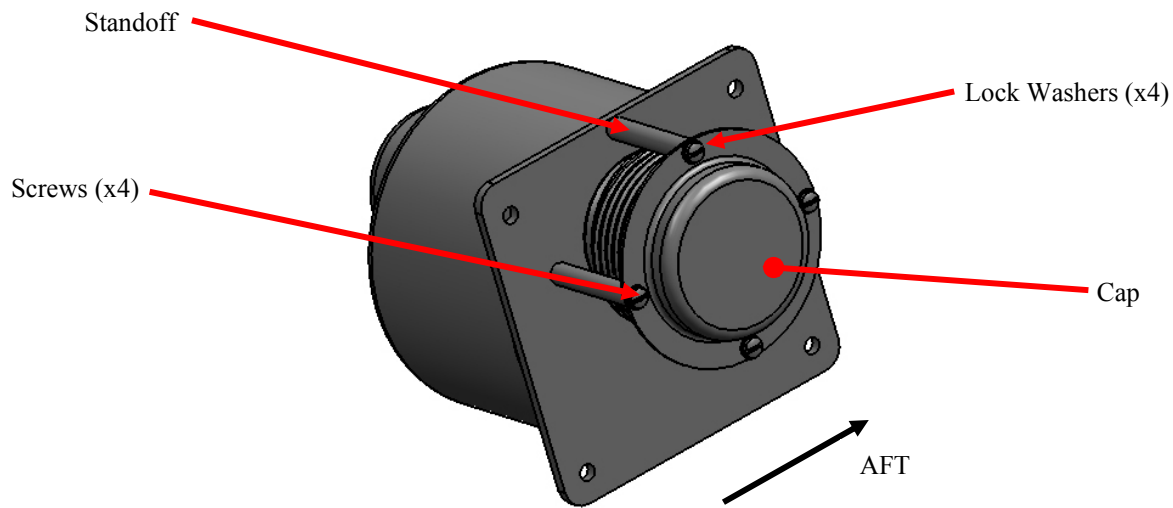

Figure 5-1: Component Identification
1. Remove the four (4) screws, four (4) lock washers, the servo cap, and the one (1) top standoff shown in **Figure 5-1**. Retain the four (4) screws, and discard two (2) of the lock washers and the one (1) standoff.